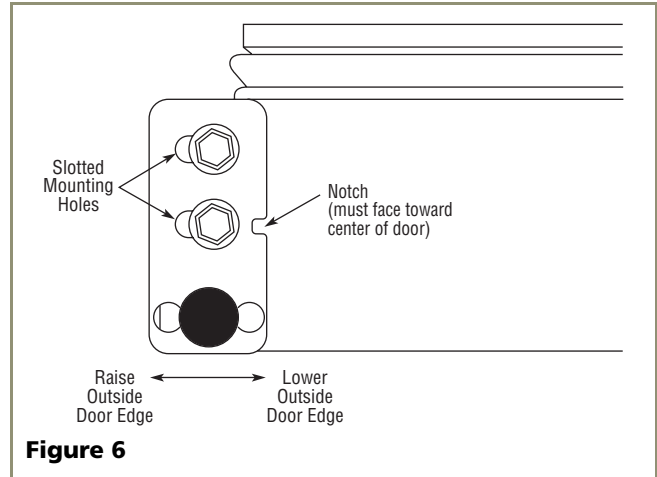

Figure 6
3. See **Figure 6**. If the top far edge of the door needs to move UP, move the hinge plate toward the outside of the door and retighten screws. If the top far edge of the door needs to move DOWN, move the hinge plate toward the inside of the door and retighten screws.